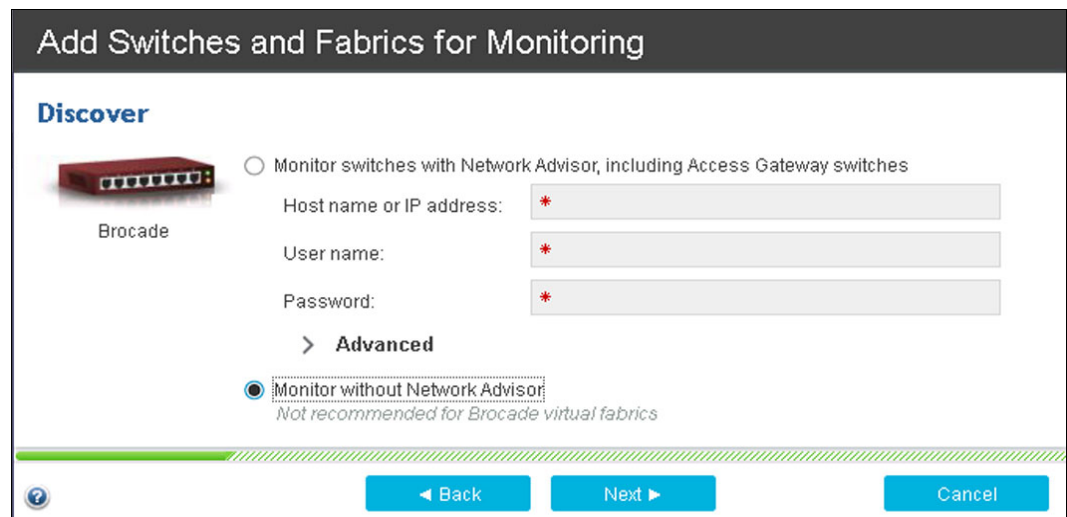

Figure 6-4 Selecting the switch discovery method
3. Select **Monitor without Network Advisor** as shown in Figure 6-4 and click **Next**.